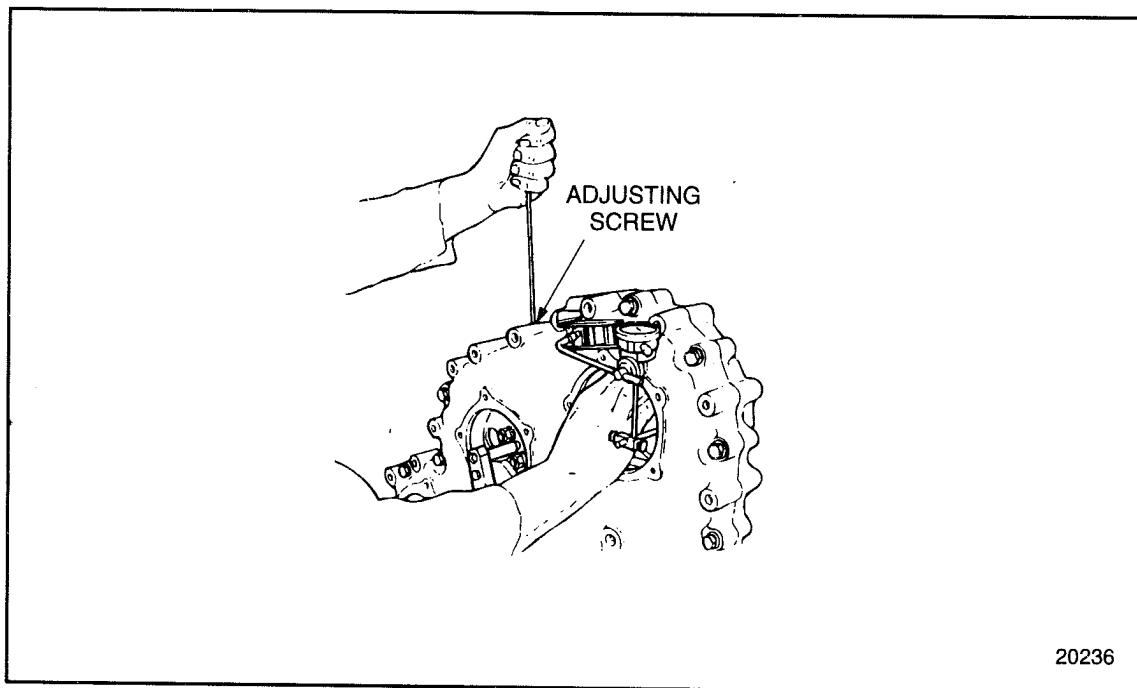

FIGURE 1-258 Checking Adjustable Idler Gear-to-Camshaft Drive Gear Lash
- [l] When checking gear lash, hold the adjustable idler gear stationary. Refer to step [h] as the first step and refer to step [i] as the final step, and rotate the camshaft drive gear with your right hand. See Figure 1-258.